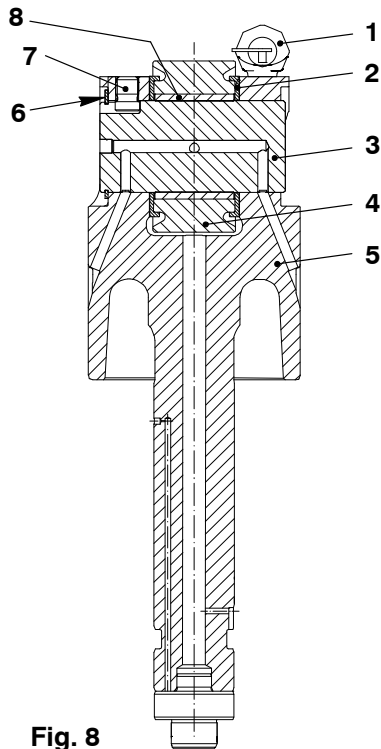

Fig. 8
- 1) Attach the two M10 eye bolts (1, Fig. 8) to the guide piston (5).
- 2) Remove the guide piston (5) from the housing.
- 3) Remove the circlip (6).
- 4) Remove the pin (7).
- 5) Push out the roller pin (3).
- 6) Remove the roller (4), bush (8) and the two pressure discs (2).